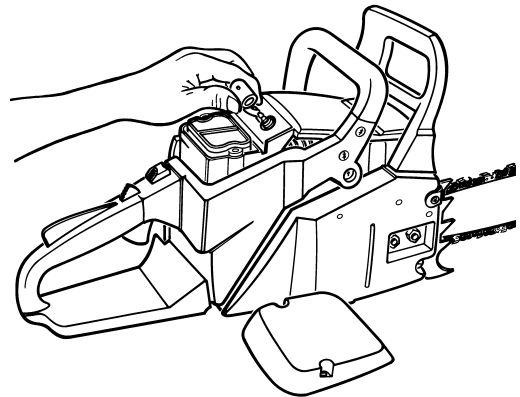

Fig. 35
2. Remove top Cover. Disconnect the wire connector from the spark plug by pulling and twisting at the same time (Fig. 35).